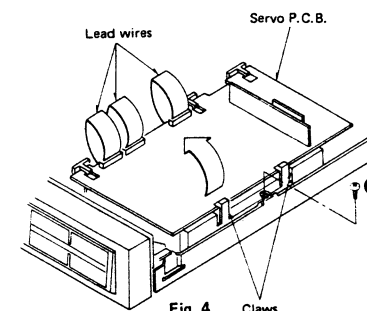

Fig. 4
2. Release the 2 claws [Fig. 4] in the direction of the arrow and then lift the servo P.C.B.
4. To remove the audio P.C.B., remove the setscrew ⑫ [Fig. 4].